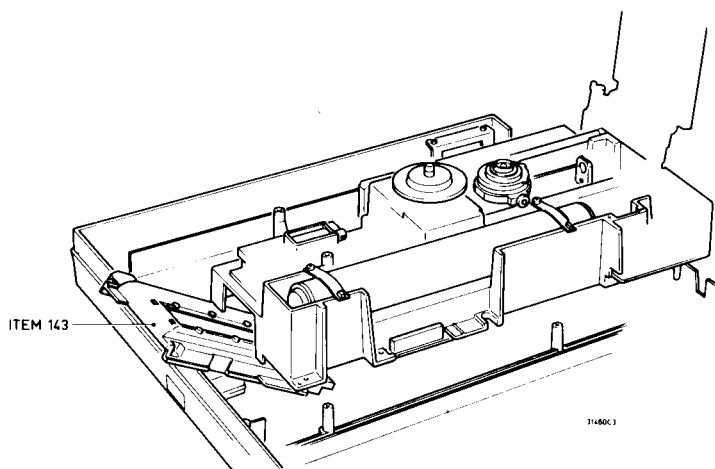

Fig. 2
1. Remove the covers (items 143, 153 and 511) and the slide drive mechanism (item 129) as shown in Fig. 1. Remove the deck from the cabinet by undoing the four fixing screws. Place the deck with its rear side on the rear cabinet edge and place cover 143 underneath the front, as indicated in Fig. 2.